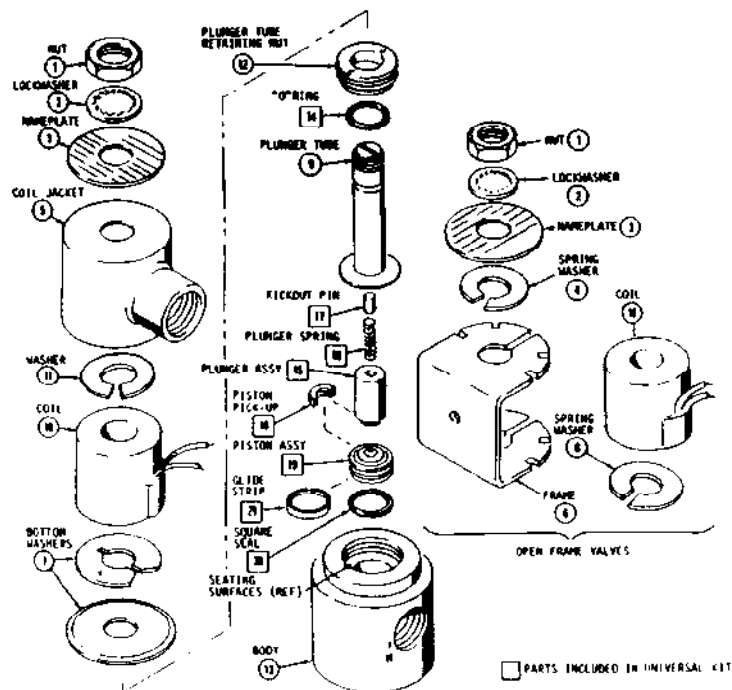
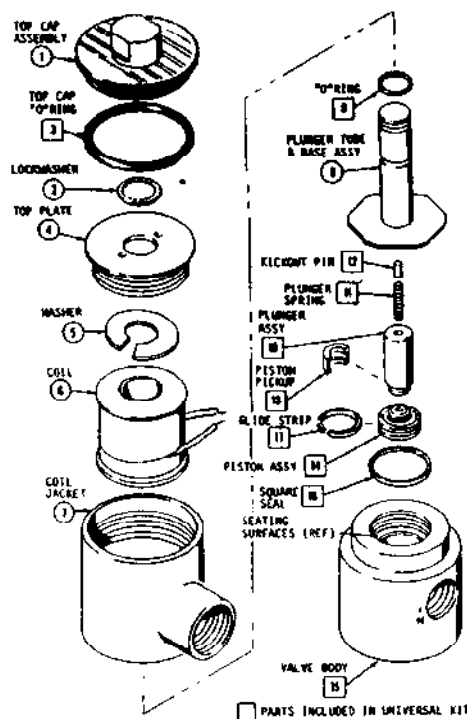

Fig. 2 Exploded View of Typical S401 Standard and Open Frame Models
Fig. 3. Exploded View of Typical S401 Explosion Proof Model
Standard and Open Frame Models (See Fig. 2). To replace coil on STANDARD and OPEN FRAME MODELS, follow steps 1, 2 and 3 under VALVE DISASSEMBLY AND REASSEMBLY (Standard and Open Frame Models). Disassemble solenoid, taking care to note the exact order of replacement and quantity of parts. Reassemble in reverse order.
Standard and Open Frame Models (See Fig. 2).
3. Remove coil assembly (10) and washer (11). Do not disarrange solenoid assembly.
4. Use ITT/GC solenoid wrench No. 63591A to remove plunger tube retaining nut (12) and plunger tube (9). Do not nick, dent or damage plunger tube (9) or valve seating surfaces.
5. Carefully hold plunger tube (9) in position when removing plunger tube retaining nut (12) from valve body (13) to prevent loss of internal parts.
6. Lift off plunger tube (9) and remove plunger tube retaining nut (12), "O" ring (14).
7. Grasp plunger assembly (15) which includes plunger spring (16) and kickout pin (17). Lift out plunger with the piston pick-up (18). Do not damage seating surfaces.
8. Lift off piston assembly (19) from valve body (13) with fingertips.
9. Check square seal (20), "O" ring (14), plunger (15) seating surface, top and bottom of piston (19) seating surfaces, main port seating surface (Ref.) in valve body (13), and teflon glide strip (21)\* for damage or wear.
10. Reassemble in reverse order of disassembly paying careful attention to exploded view provided in Fig. 2.
#### Explosion Proof Model. (See Fig. 3).
1. Remove top cap assembly (1), lockwasher (2) and top cap "O" ring (3).
2. Use ITT/GC spanner wrench assembly No. 106198E to remove top plate (4).
3. Remove washer (5), and coil (6) is now accessible for removal or replacement.
4. Lift off coil jacket (7) and remove "O" ring (8).
5. Use 1 1/2 hex wrench to remove plunger tube and base assembly (9). Do not nick, dent or damage plunger tube and base assembly.
6. Carefully grasp plunger assembly (10) which includes plunger spring (11) and kickout pin (12). Lift out plunger with the piston pick-up (13). Do not damage seating surfaces.
7. Lift off piston assembly (14) from valve body (15) with fingertips.
8. Check square seal (16), "O" ring (8), plunger (10) seating surface, top and bottom of piston (14) seating surfaces, main port seating surface (Ref.) in valve body (15) and teflon glide strip (17) for damage or wear.
9. Reassemble in reverse order of disassembly paying careful attention to exploded view provided in Fig. 3.
When ordering parts or kits, specify catalog number, serial number and part name. See Figure 2 for exploded view of typical S401 Standard and Open Frame Models; Figure 3 for exploded view of typical S401 Explosion Proof Model